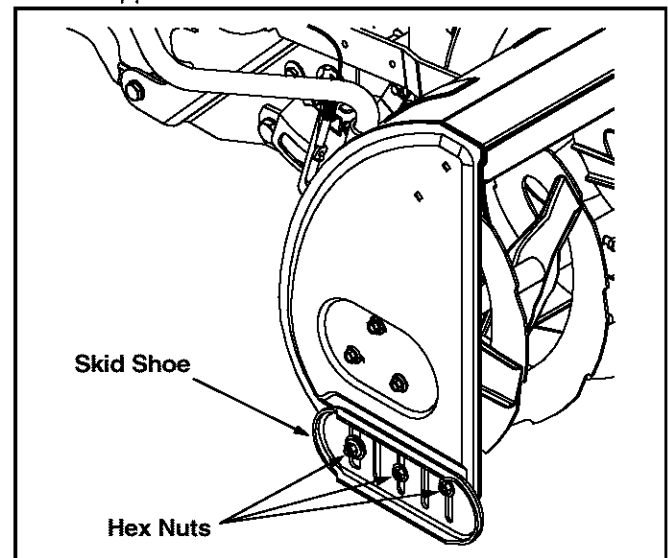

Figure 21
- Loosen, but do NOT remove, the three hex nuts which fasten the skid shoe to the auger housing. See Figure 21.